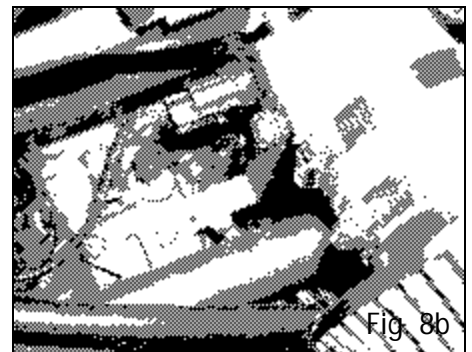
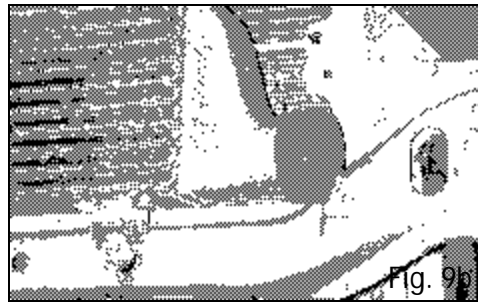
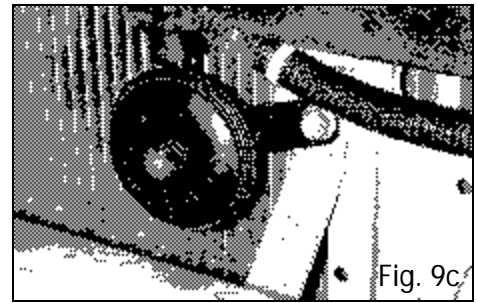

Fig. 9a
Fig. 9b
Fig. 9c
4. Install the intercooler grommets into the holes in the lower radiator support as shown (See Fig. 9a). Using a small amount of silicone-based spray lubricant on the grommets will make installation easier. Mount the intercooler by pressing the pins on the lower edge of intercooler into the grommets (See Fig. 9b). Using the bolt removed from the horn, attach the intercooler brace and horn to the center radiator support (See Fig. 9c).